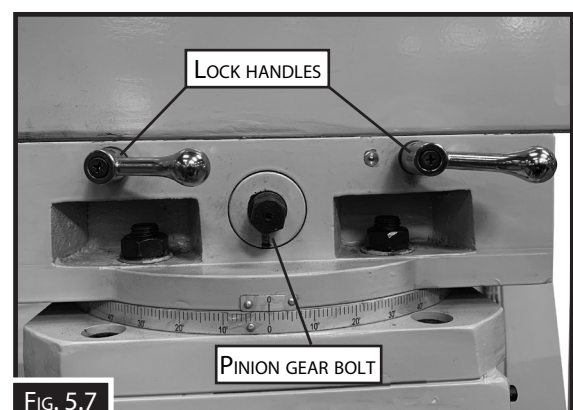

FIG. 5.7
2. Loosen the two lock handles shown in Fig.5.7